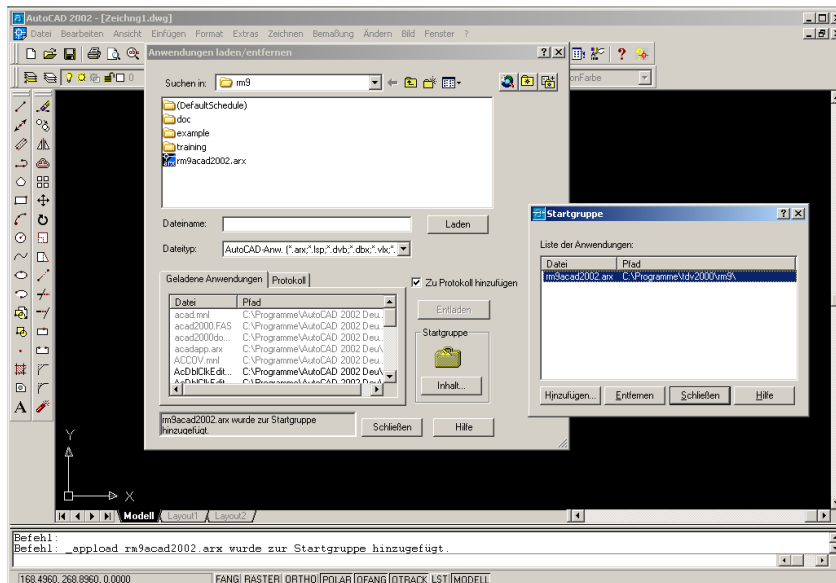

Figure 1: Adding the Plug-In to the start group of AutoCad
- Select \hat{u} Extras \Rightarrow Application/Anwendung from the main AutoCad menu. The Plug-In may then be added to the *start group* folder. This is done by clicking on the folder and adding the filer ***rmacad2008.arx*** as given in Figure 1. The plug-in is then automatically loaded at every AutoCad start up.